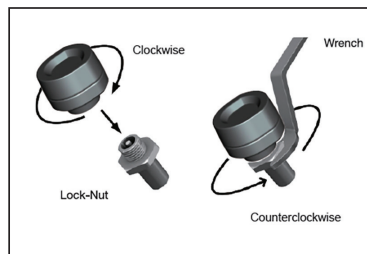

Figure 2
2. Tightly screw the sensor on the tire valve stem until you no longer hear air escaping from the tire valve (Figure 2).